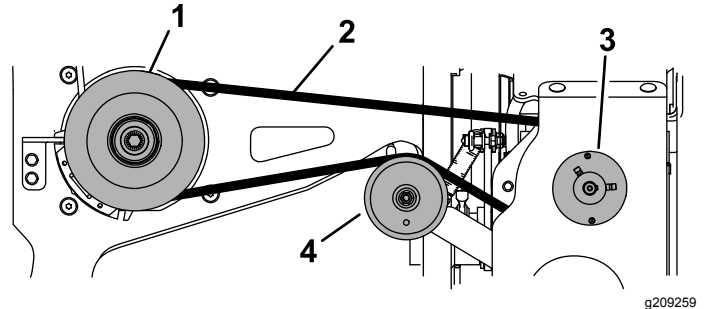

Figure 14
3. Remove the belt from the pulleys (Figure 14).
4. Install the new belt around the machine clutch pulley, idler pulley, and high-flow pump pulley (Figure 14).